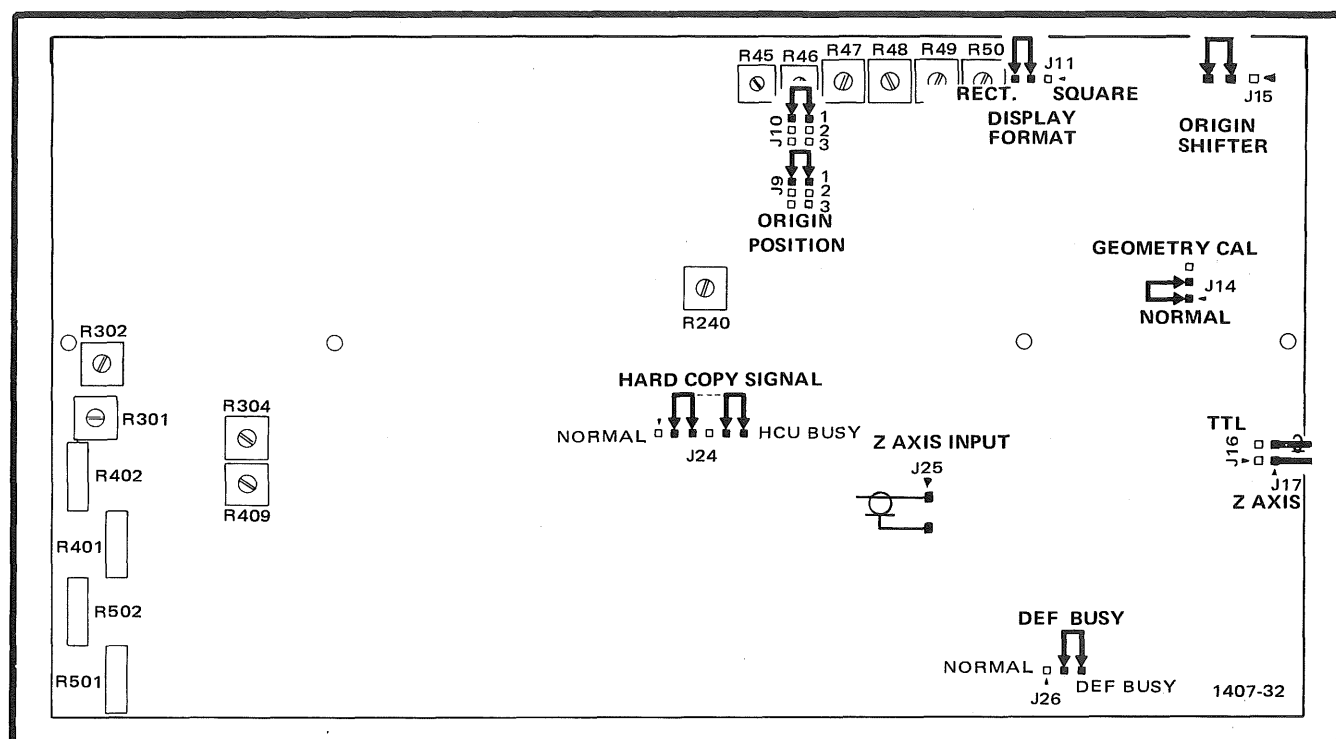

Fig. 3-1. Locations of strap option jumpers on the Deflection Amp board in preparation for calibration of the 613.
4. Inspect the Deflection Amplifier board to check that the input connectors are correctly installed for the 613 (horizontal format), or the 613-1 (vertical format). Table 3-2 shows the connections. Check also that the various strap option jumpers are connected as shown in Fig. 3-1.